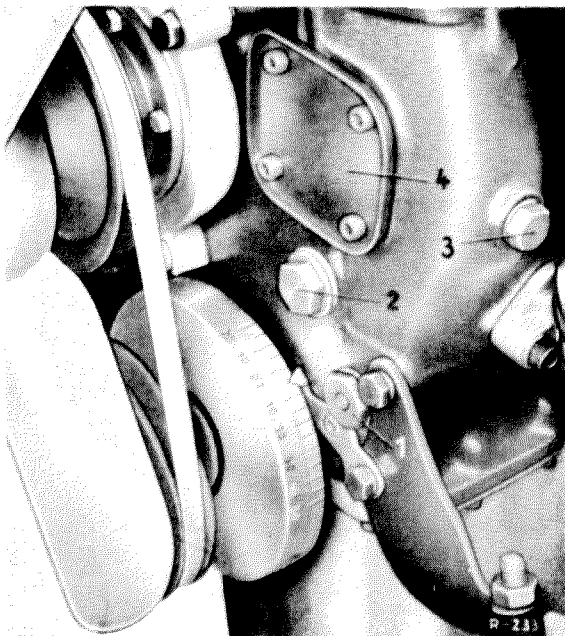

Fig. 01—4/24
5. Fit the distributor bearing and secure it with trunnion screw (2) (Fig. 01—4/23a).
6. Set the ignition. To do this, turn the crankshaft at the front by means of the hexagon shoulder screw, using Socket with Ratchet SW 22, in the direction of rotation of the engine until the first piston is at compression stroke and the timing pointer is at $8^{\circ} \pm 1$ before TDC on the counterweight graduation scale (Fig. 01—4/24).